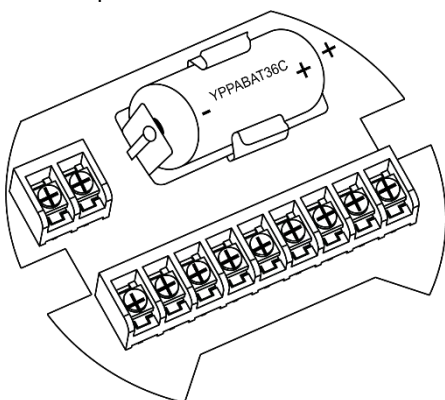

Figure 17. Battery Orientation
- Install new YPPABAT36C into battery clip with polarity as shown in Figure 17.